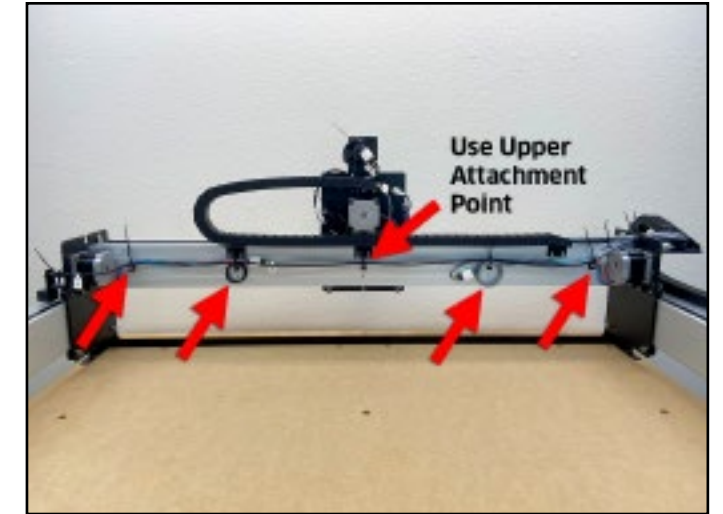

Figure 9-7
2. Use five (5) cable ties to secure the cables to the five (5) cable tie mounts. See **Figure 9-7**. The cable tie mounts have two attachment points. When securing cables to the center cable tie mount, only use the upper attachment point. The lower one is reserved for the router's power cord.